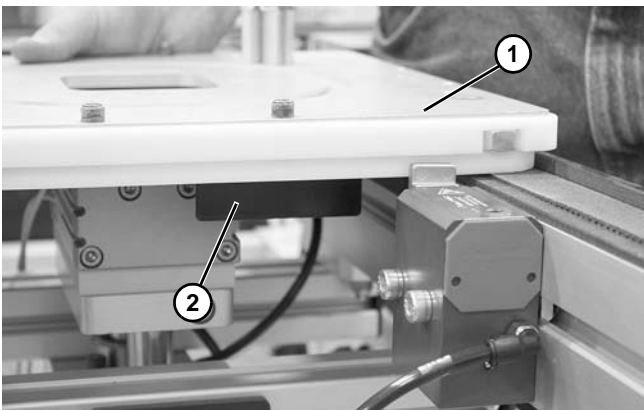

Figure 54
- Place pallet (**Figure 54, item 1**) on lift and rotate plate (**Figure 54, item 2**). Raise top plate to underside of pallet.